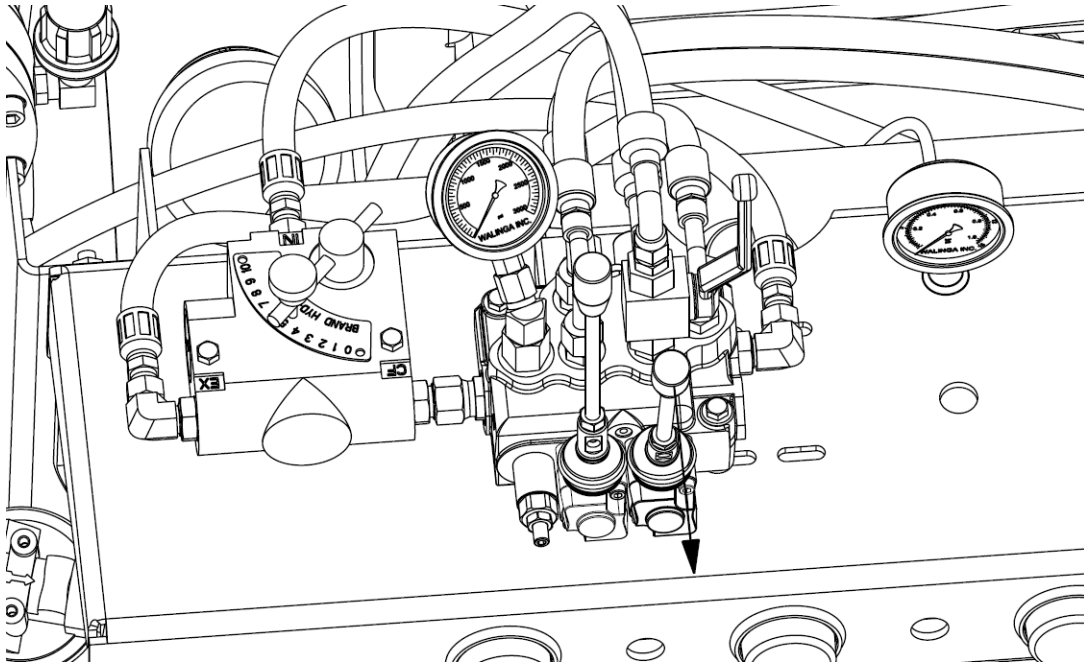

Figure 6-36: Boom lift control raising
- j. Use the boom lift control lever to lift the boom, reference **Figure 6-36**, to the desired operational position, ensuring there is sufficient clearance beneath the discharge cyclone and boom structure.